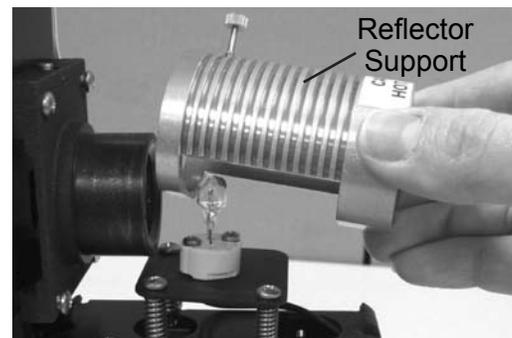

Figure MM-9 Remove Reflector Support
3. Pull housing back and lift away to uncover bulb. Refer to Figure MM-9.